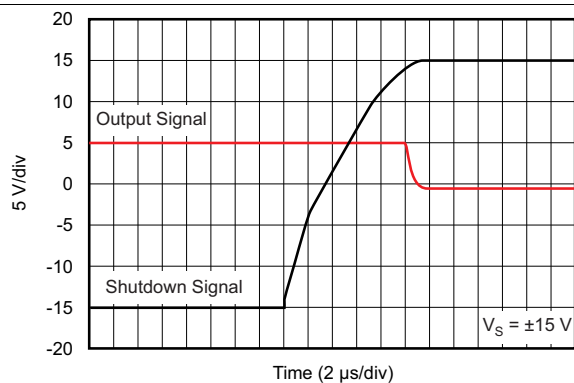

Figure 39. Turnoff Transient
(1) When disabled, the output assumes a high-impedance state.
(2) See Typical Characteristics curves (Fig. 39 through Fig. 41).
The shutdown (enable) function of the OPA211 is referenced to the positive supply voltage of the operational amplifier. A valid high disables the operational amplifier. A valid high is defined as (V+) – 0.35 V of the positive supply applied to the shutdown pin. A valid low is defined as (V+) – 3 V below the positive supply pin. For example, with V_{CC} at ±15 V, the device is enabled at or below 12 V. The device is disabled at or above 14.65 V. If dual or split power supplies are used, make sure the valid high or valid low input signals are properly referred to the positive supply voltage. This pin must be connected to a valid high or low voltage or driven, and not left open-circuit. The enable and disable times are provided in the Typical Characteristics section (see FIG 39 through FIG 41). When disabled, the output assumes a high-impedance state.